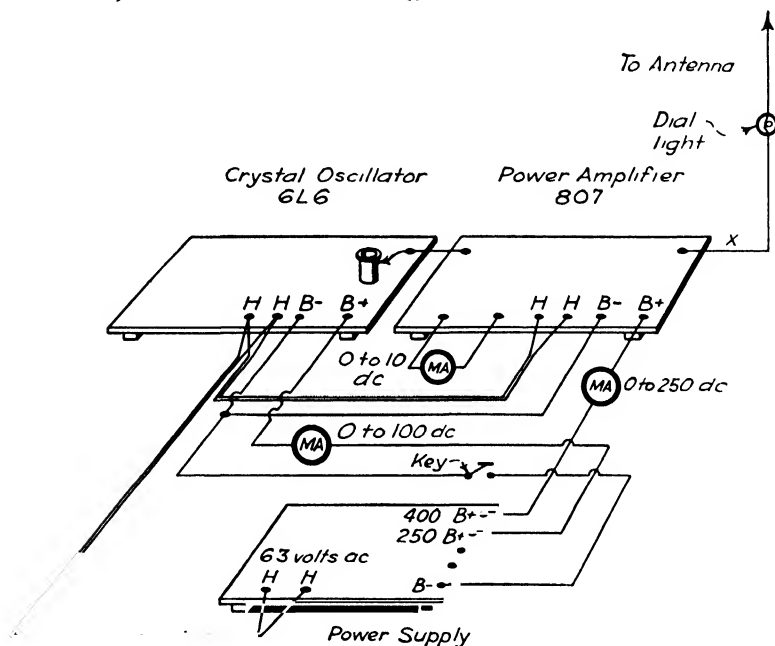

FIG. 459. A more powerful transmitter. Add an 807 power amplifier and your signal will be much more powerful than when only an oscillator is used.
Step 1. Hook up the crystal oscillator to the 807 power amplifier (see Figs. 459 and 460). Couple the two circuits by means of a condenser, as shown in these diagrams.